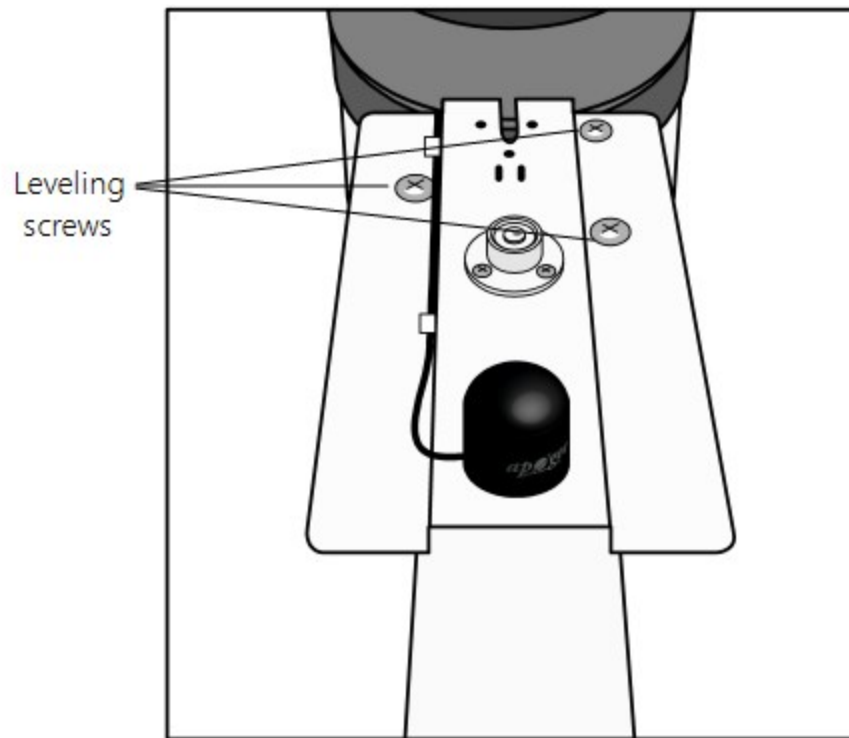

FIGURE 6-19. Pyranometer leveling
1. Adjust the three leveling screws until the bubble level indicates plumb (FIGURE 6-19 (p. 32)).